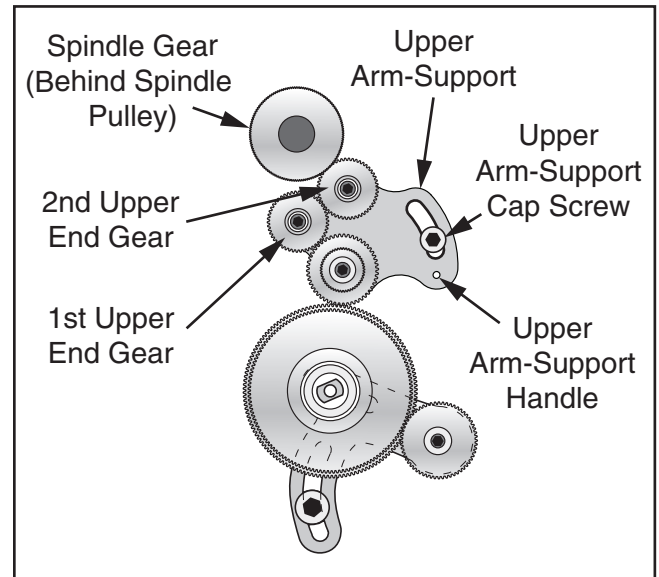

Figure 75. Reverse threading gearing configuration.
4. Pivot upper arm-support up so 2nd upper arm gear and spindle gear mesh with 0.002" to 0.004" backlash, then tighten upper arm-support cap screw (see **Figure 75**).